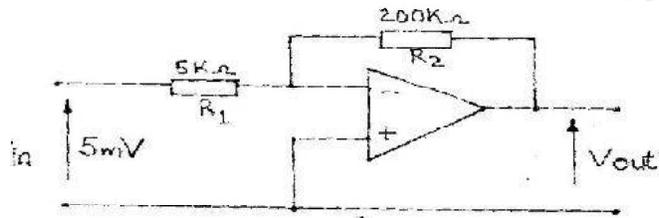

Figure 1
- (b) **Figure 1 is an inverting amplifier.**
In Figure 1, calculate the:
Although many candidates managed to define the gain of an amplifier, they could not use the inverting op – Amplifier circuit drawn in fig. 1 to get the correct answers for (i) voltage gain and (ii) output voltage for the amplifier.
- (a) **Connect the circuit as shown in Figure 1.**